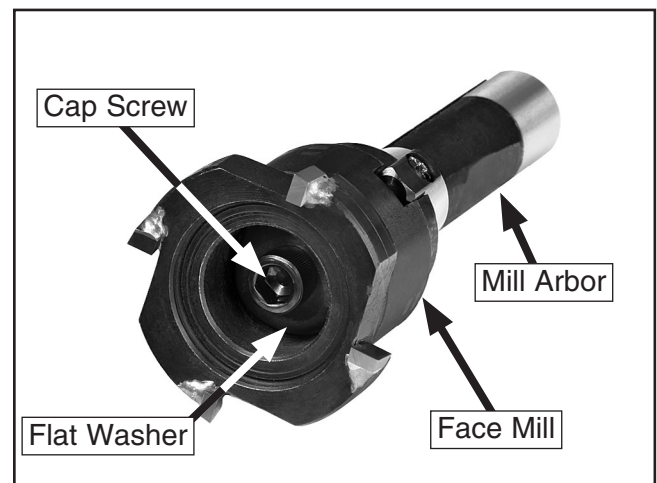

Figure 9. Attaching a face mill to the mill arbor.
2. Seat the tooling on the mill arbor as shown in Figure 9.